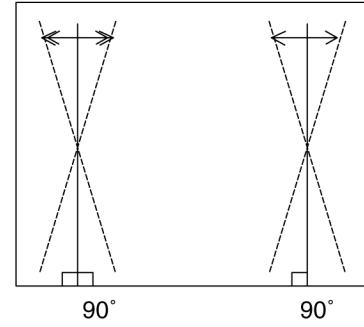

Fig 26
3. Adjust the vertical line to straight line of bothside vertical line in Fig. 26 by Trapezoid(1125i_50)